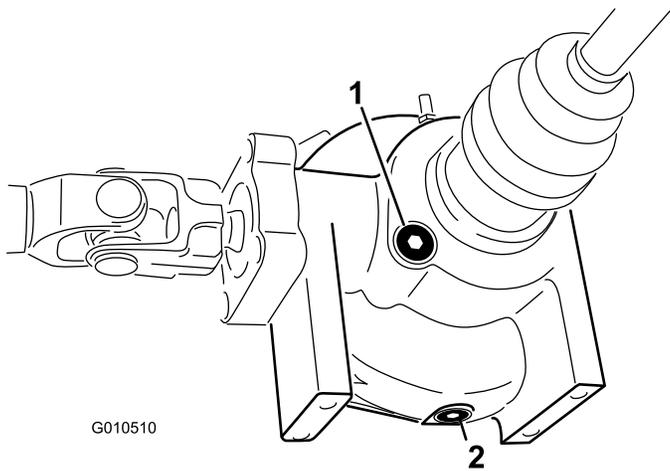

Figure 55
2. Clean the area around the drain plug on the side of the differential (Figure 55). Place a drain pan under the drain plug.